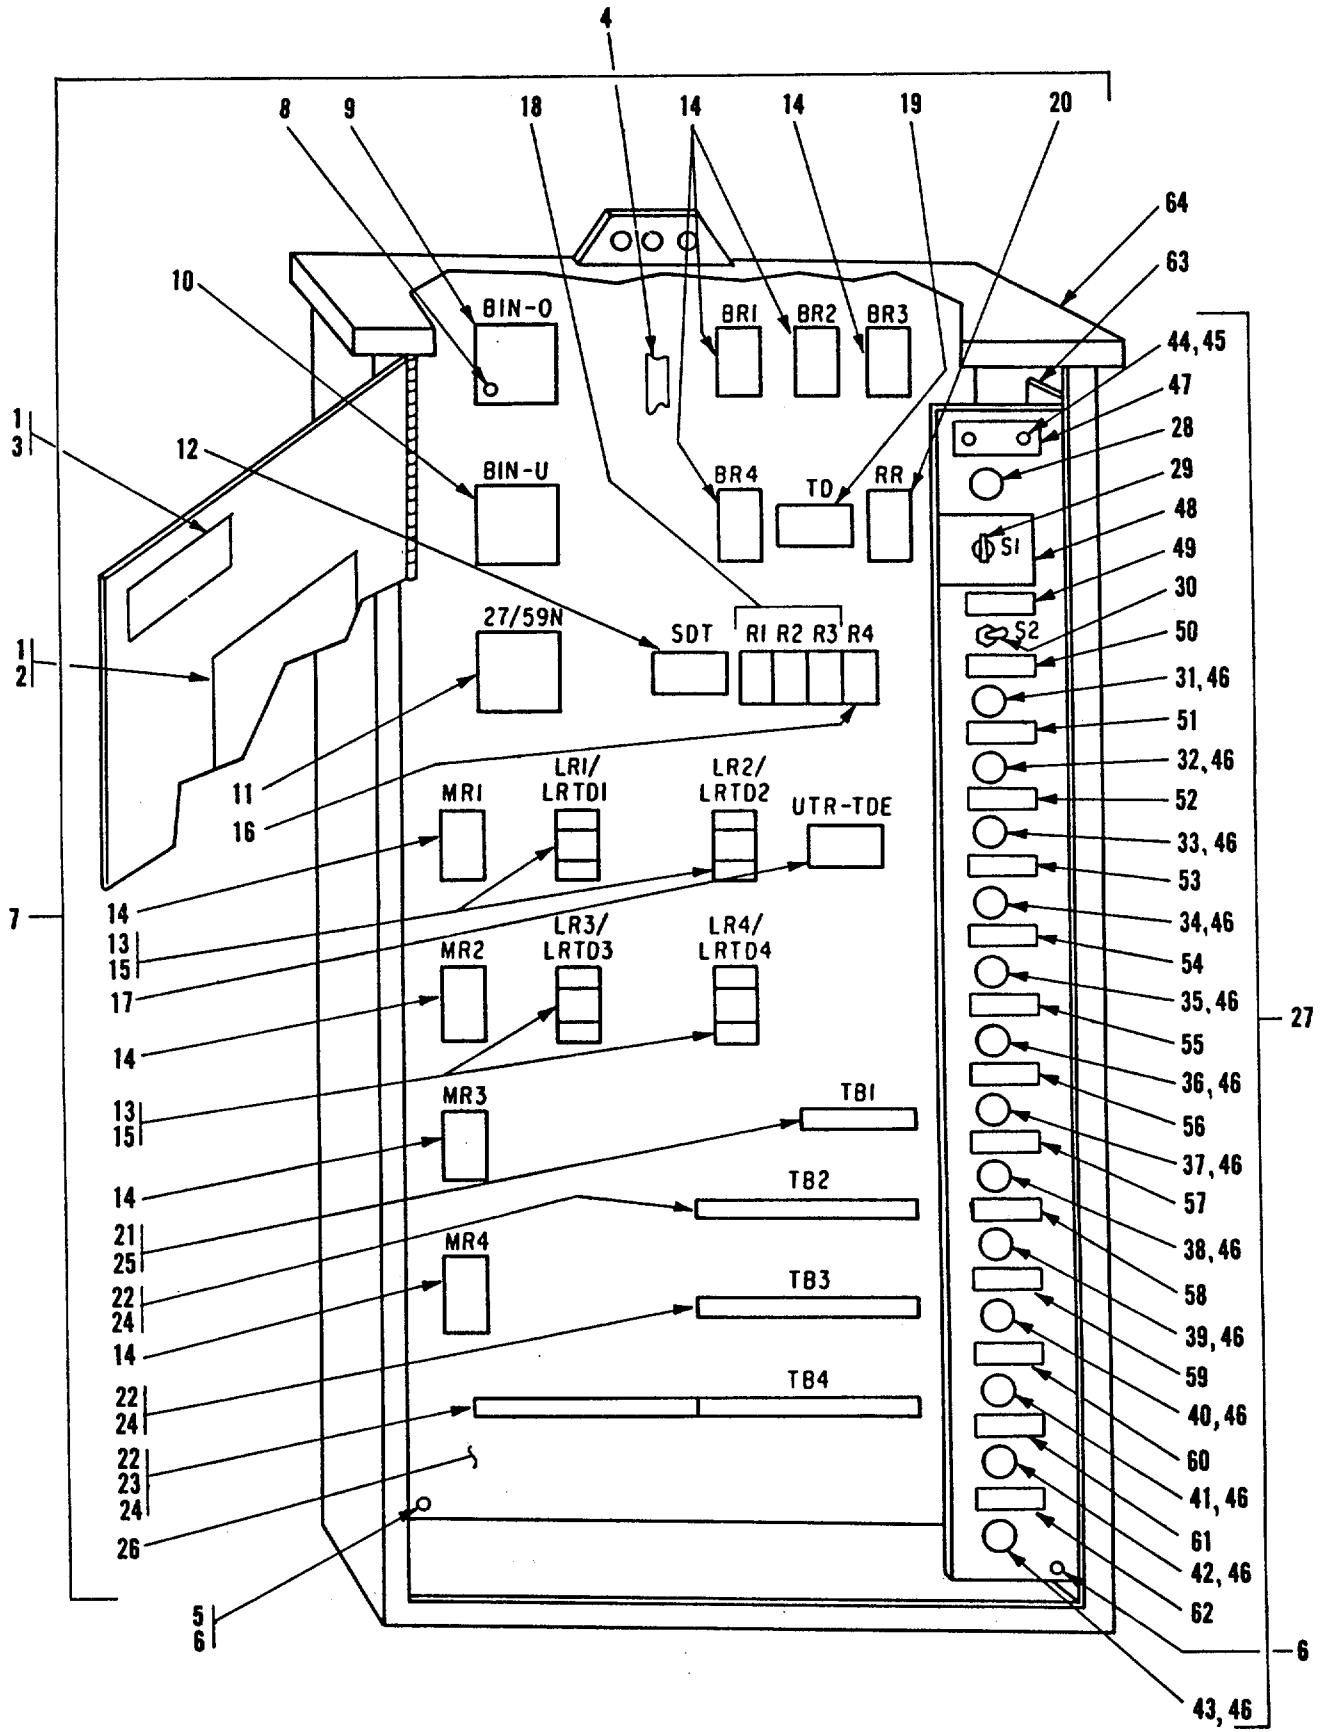

Figure 15-9. Automatic Control Module
15-16. UNDER/OVERVOLTAGE DEVICE. There is one under/over voltage device. The device is preset for a  $\pm 10$  percent deviation in the 120V AC bus sensing power. The device is adjustable within the range specified in the tabulated data in Chapter 1 of the Operator and Organizational Maintenance manual. Trip settings are made by removing protective plastic caps on front of the device and turning adjustment screws beneath caps. A clockwise rotation of adjustment screw will increase trip point. Figure 15-9 shows component layout of Automatic Control Module.
LEGEND FOR FIGURE 15-9
(1) Under/over voltage relay (11, figure 15-9)
Under/overvoltage relay (11, figure 15-9) is removed as follows:
15-17. UNDERFREQUENCY RELAY. (10, figure 15-9). The device is adjustable within the range specified in the tabulated data in Chapter 1 of the Operator and Organizational Maintenance manual. Test numbers given in the procedures below are nominal. Trip setting is
15-18. OVERFREQUENCY RELAY. The overfrequency relay (9, figure 15-9) is adjustable within the range specified in the tabulated data in Chapter 1 of the Operator and Organizational Maintenance manual. Trip setting is adjusted with the adjustment screw on the device. Test the device as follows: a. Test.
- b. Replacement. The underfrequency relay (10, figure 15-9) is removed and replaced as follows:
- (1) Disconnect and tag wires connected to the underfrequency terminal board.
- (2) Remove four screws and washers. Remove device (10) from panel (7).
- (3) Replace underfrequency relay (10) by attaching to panel (7) with four screws
15-19. TIME DELAY RELAY. The time delay relay (19, figure 15-9) is a "delay on drop-out" type relay, set for 1.5-15 seconds delay. The relay is adjustable within the range specified in the tabulated data in Chapter 1 of the Operator and Organizational Maintenance manual. Timing is adjusted with the calibrated dial on the relay. Test and replace relay as follows:
b. Replacement. Remove and replace time delay relay (19) as follows:
- (1) Disconnect and tag wires connected to the time delay relay.
- (2) Remove four screws and washers. Remove relay from panel (7).
- (3) Replace relay (19) by attaching to panel (7) with four screws and washers. Connect wires and remove tags.
15-20. RELAYS (BR1-BR4, MR1-MR4, RR). BR1-BR4, MR1-MR4 (14, figure 15-9) and RR (20) relays are mounted on panel (7).
- (2) Check that normally open contacts close and normally closed contacts open relay coil is energized, by verifying ohmmeter indication of 'zero' with contacts closed and 'infinity' with contacts open.
b. Replacement. Relays (14 and 20, figure 15-9) are removed and replaced as follows:
- (1) Disconnect and tag wires connected to relays.
- (2) Remove two screws and two washers for each relay, remove relay from panel (7).
- (3) Replace relay (14 or 20) by attaching the panel (7) with two screws and washers. Connect wires and remove tags.
15-21. RELAYS (LR1-LR4, LRTD1-LRTD4). Relays LR1-LR4 (15, figure 15-9) and LRTD1-LRTD4 (13) are mounted on relay panel (7).